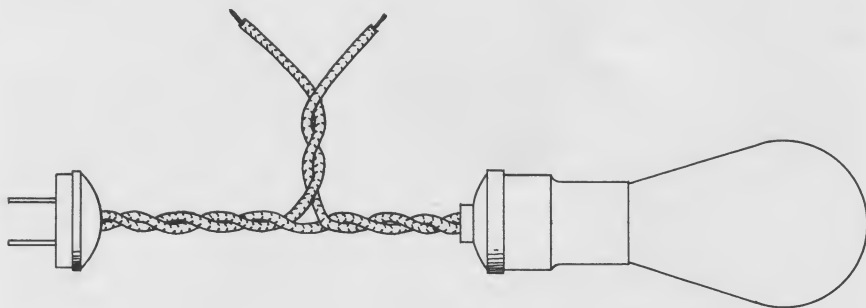

FIGURE 11—View Showing Test Lamp
**The Lamp in Series**—For testing for open circuits or short circuits, a lamp in series is the least expensive and simplest piece of testing equipment. See Fig. 11. It may readily be made from an in-